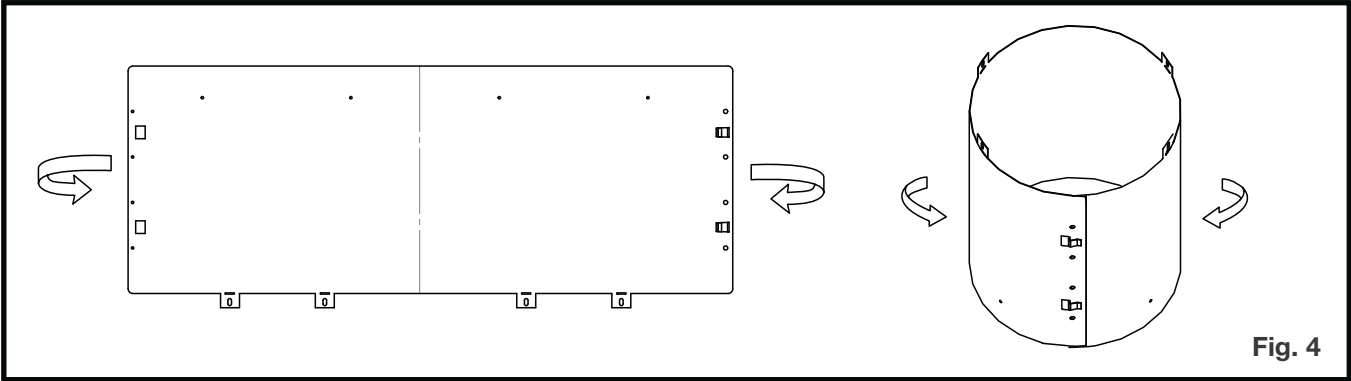

Fig. 4
- 4. Roll the vent sleeve as shown and ensure to clip the ends together (Figure 4).